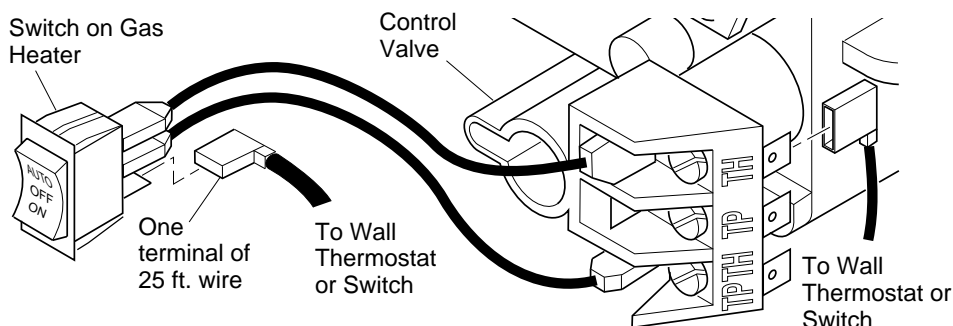

Figure 32 - Connecting Wire Terminals
1. Connect one terminal of 25 ft. wire to bottom contact of switch (see Figure 32, page 17).
2. Connect remaining wire terminal to the "TH" terminal on the control valve. Make sure that wire terminals are in the positions on your unit as pictured in Figure 32 on page 17. If wires are not "crossed" the thermostat will not work.
1. Connect one terminal of 25 ft. wire to bottom contact of switch (see Figure 32).
2. Connect remaining wire terminal to the "TH" terminal on the control valve. Make sure that wire terminals are in the positions on your unit as pictured in Figure 32. If wires are not "crossed" the thermostat will not work.